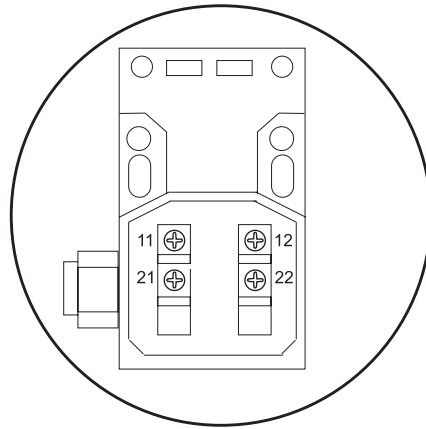

Figure 8
1. Remove the Red, Black, Green, and White wires from the existing Ball return Interlock Switch. Refer to *Figure 8*.